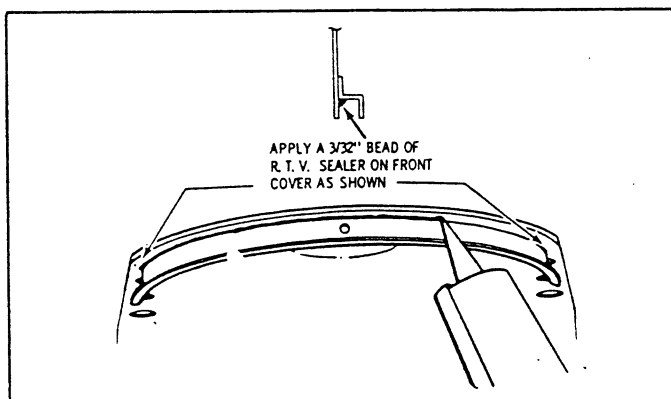

Fig. 32 Applying Sealer to Front Cover
2. Apply 1052915, 22521437, G.E. 1673 R.T.V. sealer or equivalent on the front cover oil pan seal retainer (Fig. 32).